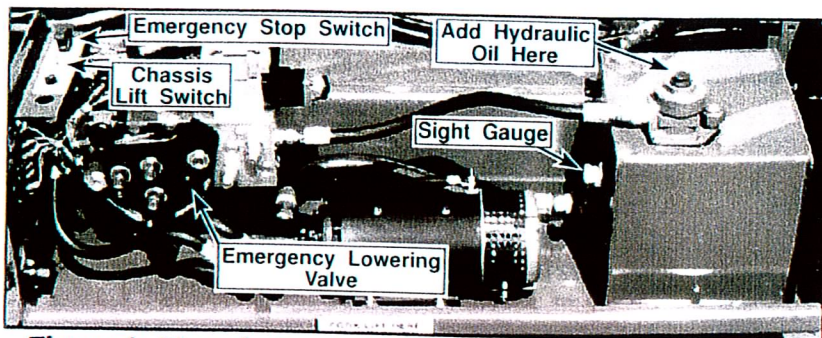

Figure 1: Chassis Control Module, with Domestic Control Panel
2. Check the level of the hydraulic oil with the platform fully lowered. Oil should be visible in the sight gauge (Figure 1). Add ISO #46 hydraulic oil if necessary.
9. Turn Chassis and Platform Emergency Stop Switch ON (Figure 1 or 2). Either open the switch guard and push the switch toward the guard **OR** turn the button clockwise.
11. Push Chassis Lift Switch (Figure 1 or 2) to **UP** position and fully elevate platform.
14. Open the Chassis Emergency Lowering Valve (Figure 1) by turning knob counterclockwise to check for proper operation. Once the platform is fully lowered, close the valve by turning knob clockwise.
Ask a person on the ground to open the Emergency Lowering Valve to lower the platform. This valve is located through the cutout in the Chassis Module cover (See Figure 1) on the right hand side of the chassis.